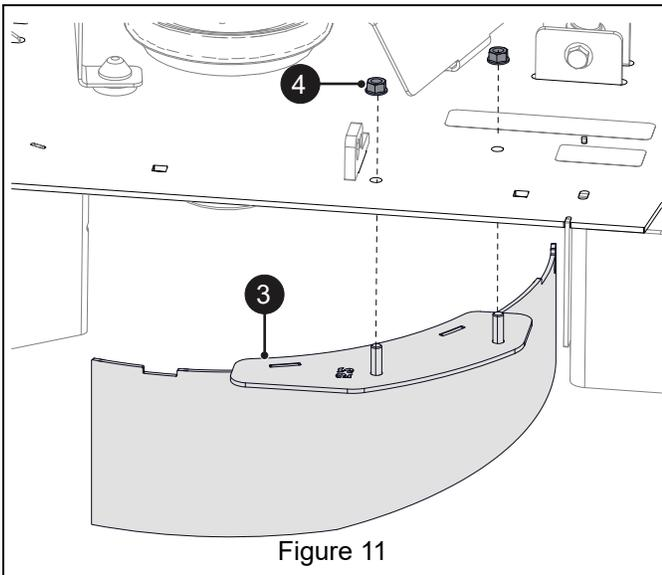

Figure 11
2. Position discharge baffle (item 3) in mower deck and retain with two 5/16" center locking flange nuts (item 4). Torque nuts to 9.1 N•m – 10.2 N•m (80 lb-in – 90 lb-in). See Figure 11.